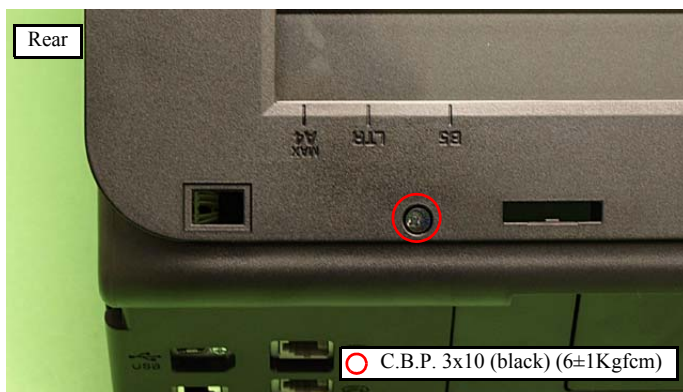

Figure 4-7. Removing the Scanner Unit (2)
3. While aligning the screw holes with the Scanner Unit open, secure them temporarily with the screw (x1) shown in Fig. 4-7. (It is recommended to prepare a pillow-shaped supporter to keep this position.)